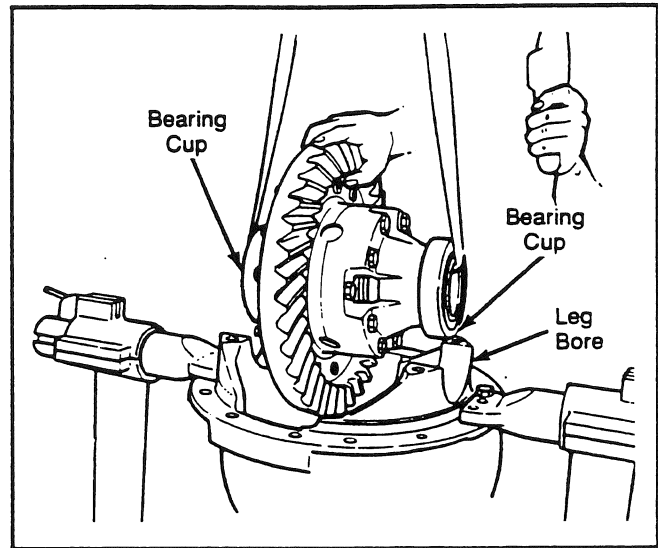

Fig. 63
4. Install the bearing cups over the case half bearing cones. Use a safe lifting device to install the differential and ring gear assembly into the carrier (see Fig. 63). The bearing caps must sit squarely in the bores between the carrier legs.